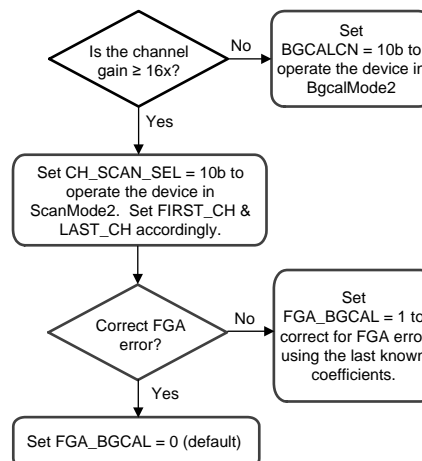

Figure 53. BgcalMode2 Register Settings
- Follow Figure 53 to set other appropriate registers when using this mode.